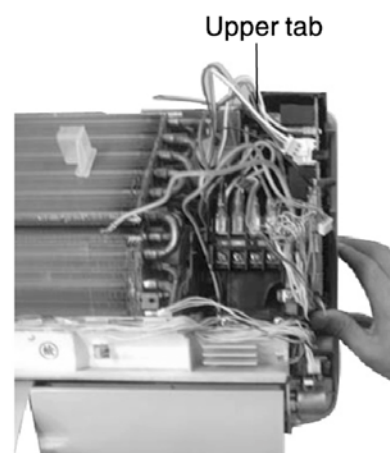

Fig 2
2. Remove the control board. Loosen the upper, left and right tabs, and pull out the control board. (Refer to Fig 2, Fig 3, Fig 4).